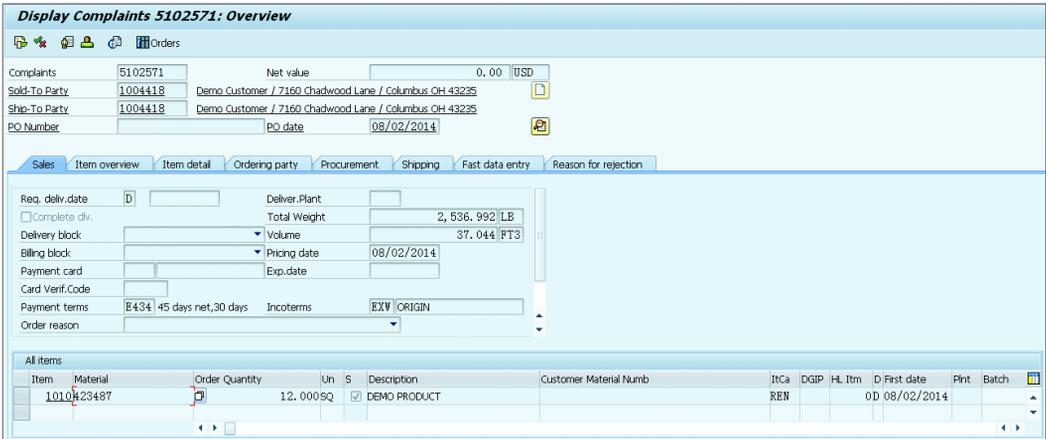

Figure 7.89 SAP ERP Return Item
7. Figure 7.89 shows the return item replicated back to SAP ERP where further return goods movement is carried out, and credit is issued to the customer. The returns delivery is created, and the credit memo is created with reference to the returns delivery or from the returns document.